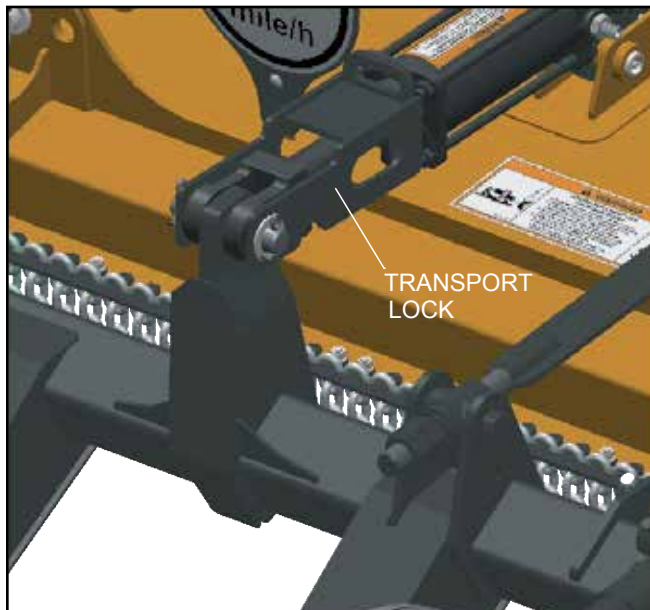

Figure 4. Transport Lock Position
2. Flip the stop over the cut height bushings. (Figure 4)